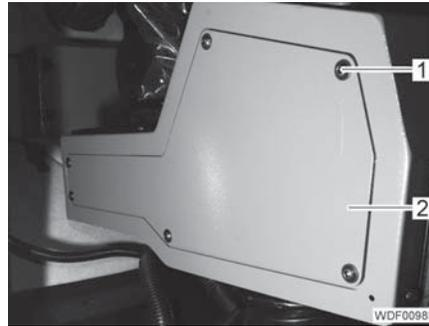

Fig. 331 Cover attachment
- Unscrew the 6 screws (Fig. 331,1).
- Remove the cover (Fig. 331,2).